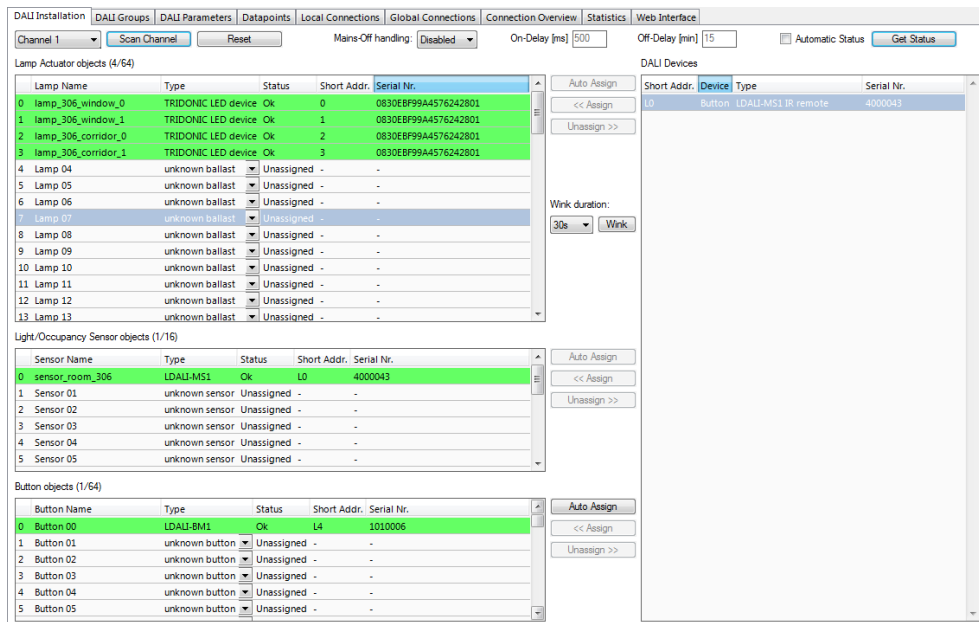

Figure 28: LINX Configurator software, After Configuration Download.
- After the download is complete, go back to the DALI Installation tab and press the **Get Status** button. Now the assigned DALI devices are displayed on a green background (see Figure 28). The green background color indicates that the communication with the device is OK. If there is a communication error, the device will be displayed with a red background color.